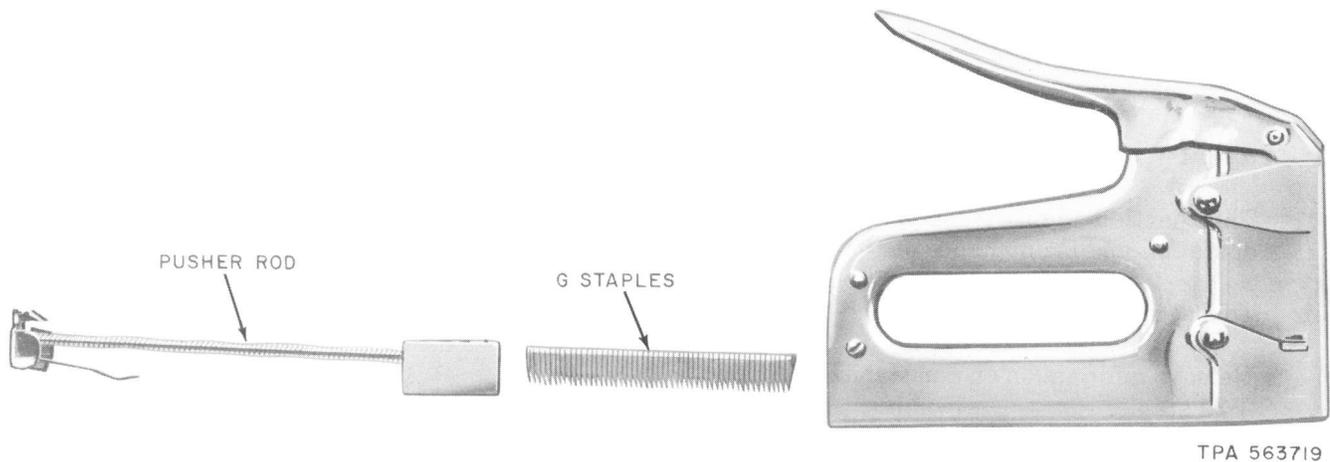

Fig. 3—Loading D-Stapler
2.04 To load the stapler, lower the pusher rod lock by depressing it with the index finger and thumb and withdraw it from the frame (Fig. 3).